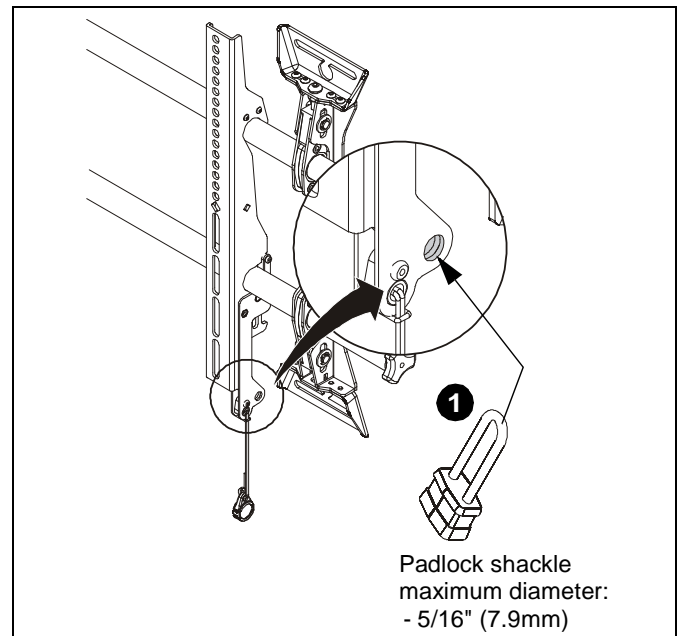

Figure 19
1. Add padlock (not included) to interface bracket to complete security. (See Figure 19)